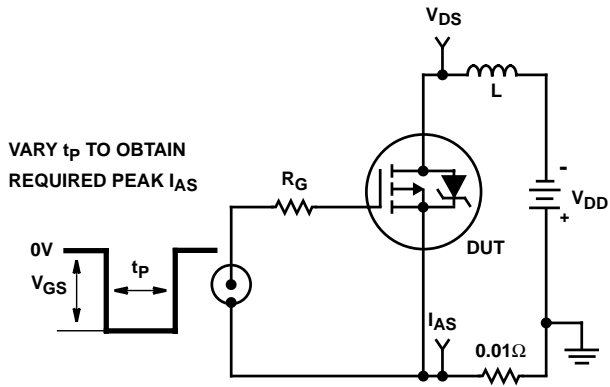

FIGURE 15. UNCLAMPED ENERGY TEST CIRCUIT
4. $V_{DD} = 25V$, starting $T_J = 25^{\circ}C$, $L = 17.75mH$, $R_G = 25\Omega$, peak $I_{AS} = 6.5A$. (Figures 15, 16).